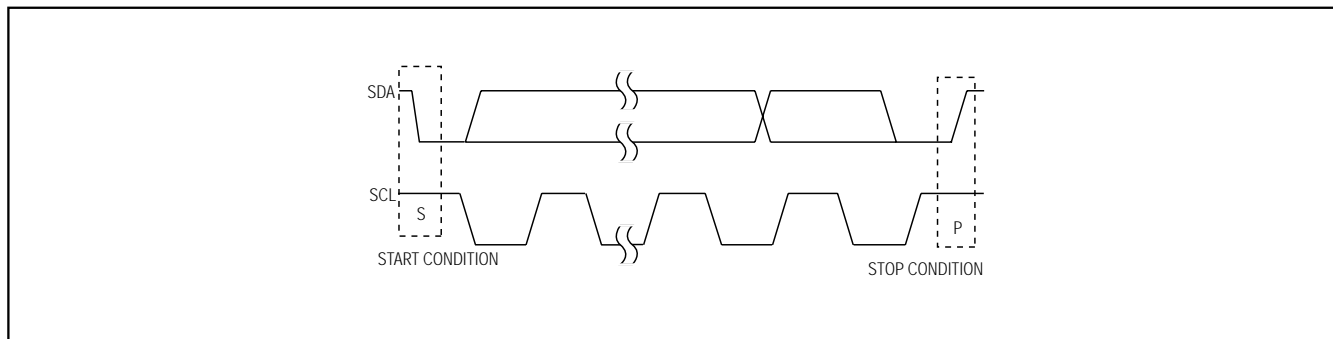
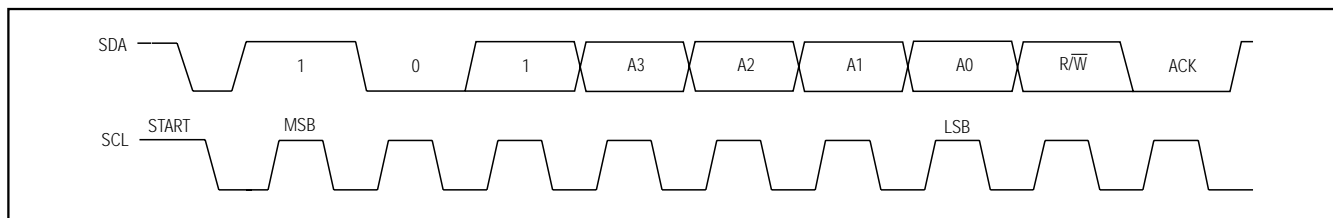

Figure 3. Start and Stop Conditions
Figure 6. Slave Address
Each transmission consists of a START condition (Figure 3) sent by a master, followed by the MAX6953 7-bit slave address plus R/W bit (Figure 6), a register address byte, 1 or more data bytes, and finally a STOP condition (Figure 3).
Both SCL and SDA remain high when the interface is not busy. A master signals the beginning of a transmission with a START (S) condition by transitioning SDA from high to low while SCL is high. When the master has finished communicating with the slave, it issues a STOP (P) condition by transitioning the SDA from low to high while SCL is high. The bus is then free for another transmission (Figure 3).
The MAX6953 has a 7-bit-long slave address (Figure 6). The eighth bit following the 7-bit slave address is the R/W bit. It is low for a write command, high for a read command.